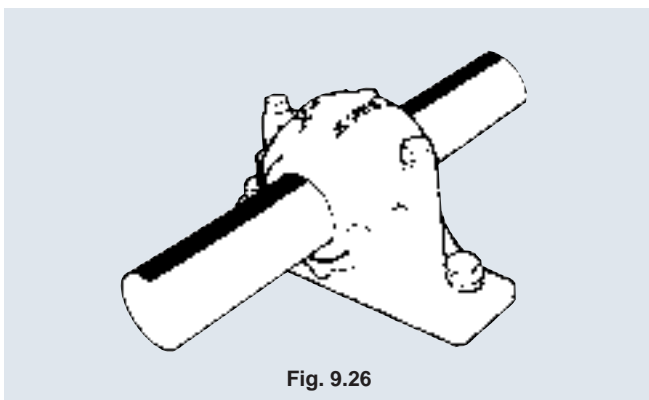

Fig. 9.26
- (7) After filling with lubricant, check the mating surfaces between the upper and lower plummer block housings are stably in contact with each other. Remember to apply grease to the mating surfaces on the plummer block housings to ensure reliable sealing and rust-proofing. Then, fully tighten the tightening bolt. (See **Fig. 9.26**.)